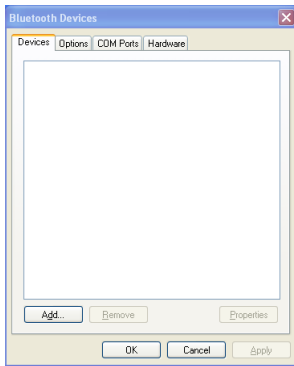

Figure 7
- 3) Double click the icon, it will pop up a dialogue box as shown in **Figure 7**.